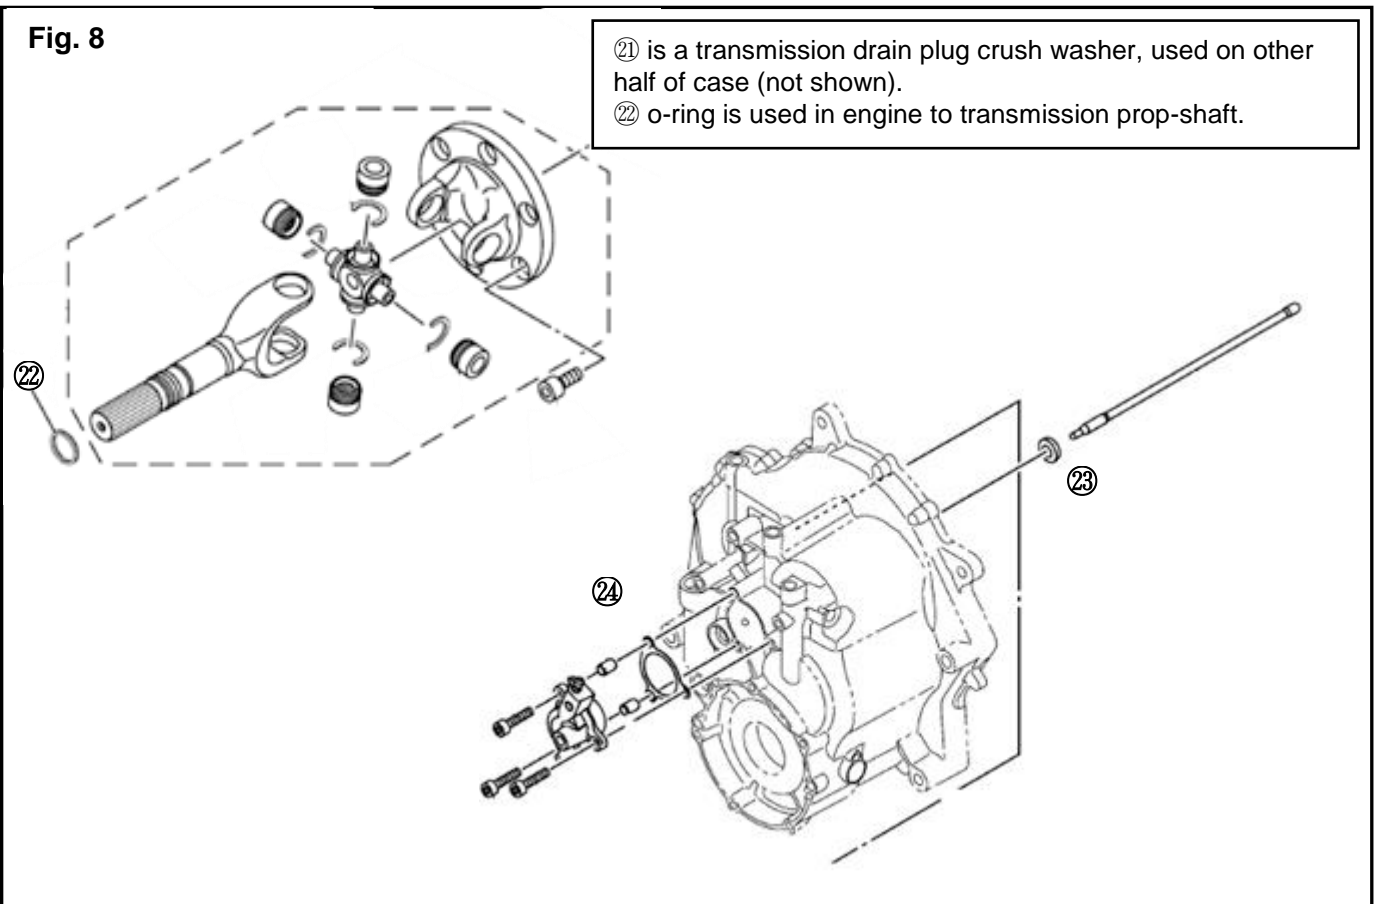

Fig. 9
- Install o-ring ⑮ on the transmission side of the spacer ⑭ (O-ring ⑮ is packaged with the spacer)
- Install o-ring ⑯ onto the Speed Sensor. O-ring ⑯ comes in Yamaha packaging.
5. Route the wire from the Speed Sensor Adjuster up into the battery compartment/center console of the vehicle so that it can be accessed later. As you route the cable, secure it with the 4 Cable Ties ㉓. Secure the wire out of the way of any moving parts or coolant lines. See Fig. 9.